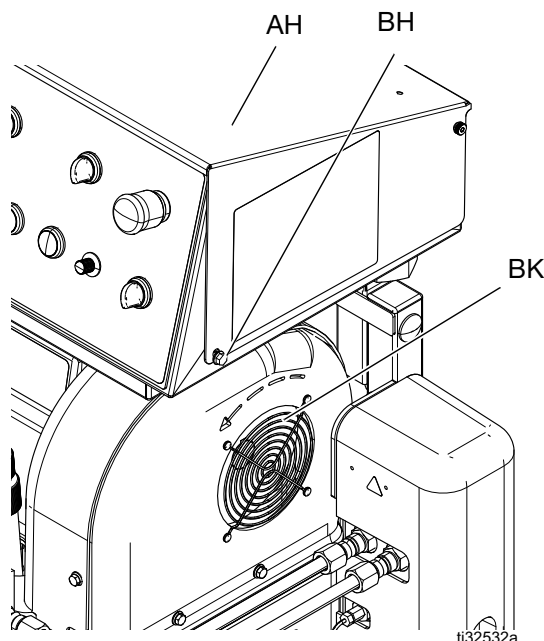

FIG. 7: Electric Motor Rotation
7. Verify electric motor fan (BK) rotation is correct. See FIG. 7.
- a. Turn the main power disconnect (CE) to ON.
- b. Turn the control power switch (CH) to START. Verify the pump control switch (CL) is in NEUTRAL.
- c. Briefly turn the motor power switch (CN) to ON. Observe the direction the electric motor fan (BK) rotates. See FIG. 7.
- a. Immediately turn the motor power switch (CN) to OFF.
- b. Turn the control power switch (CH) to STOP.
- c. Turn the main power disconnect (CE) to OFF.